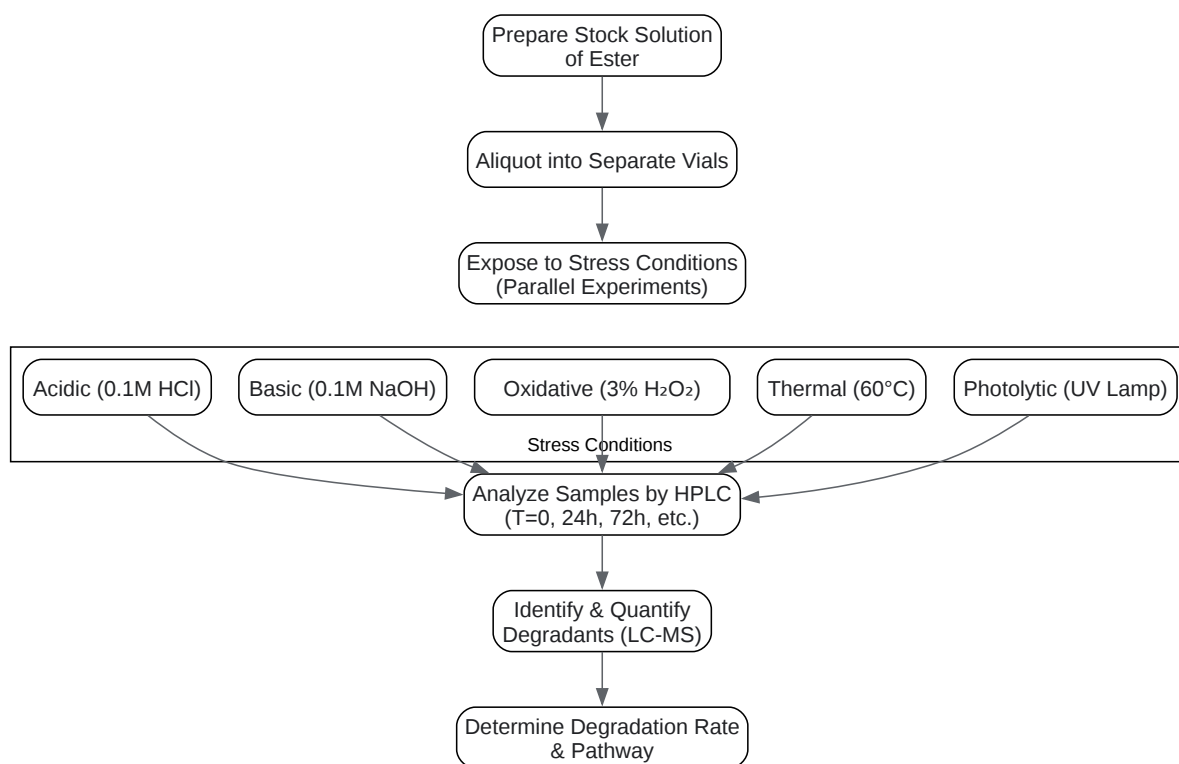

Figure 2: Workflow for a Forced Degradation Study
- Prepare Stress Samples (as per Figure 2):